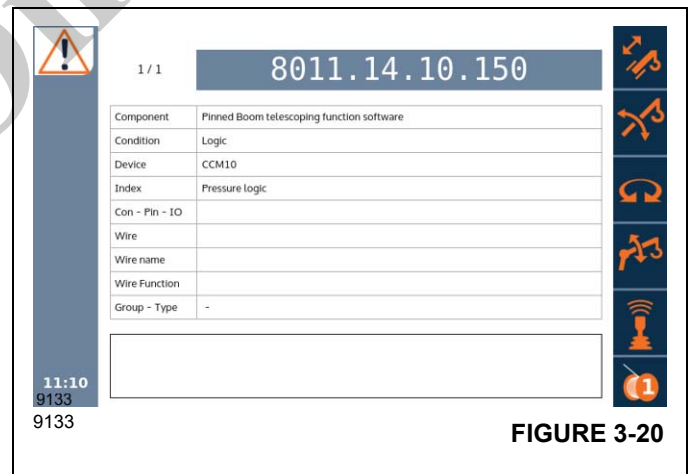

FIGURE 3-20
3. The ODM error code viewer (Figure 3-20) opens.